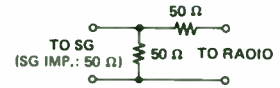

Fig. 3 Antenna Pad
- Antenna Pad: Refer to Fig. 1 and Fig. 3.
- Connect the signal generator to the antenna receptacle through the antenna pad. (Fig. 3)